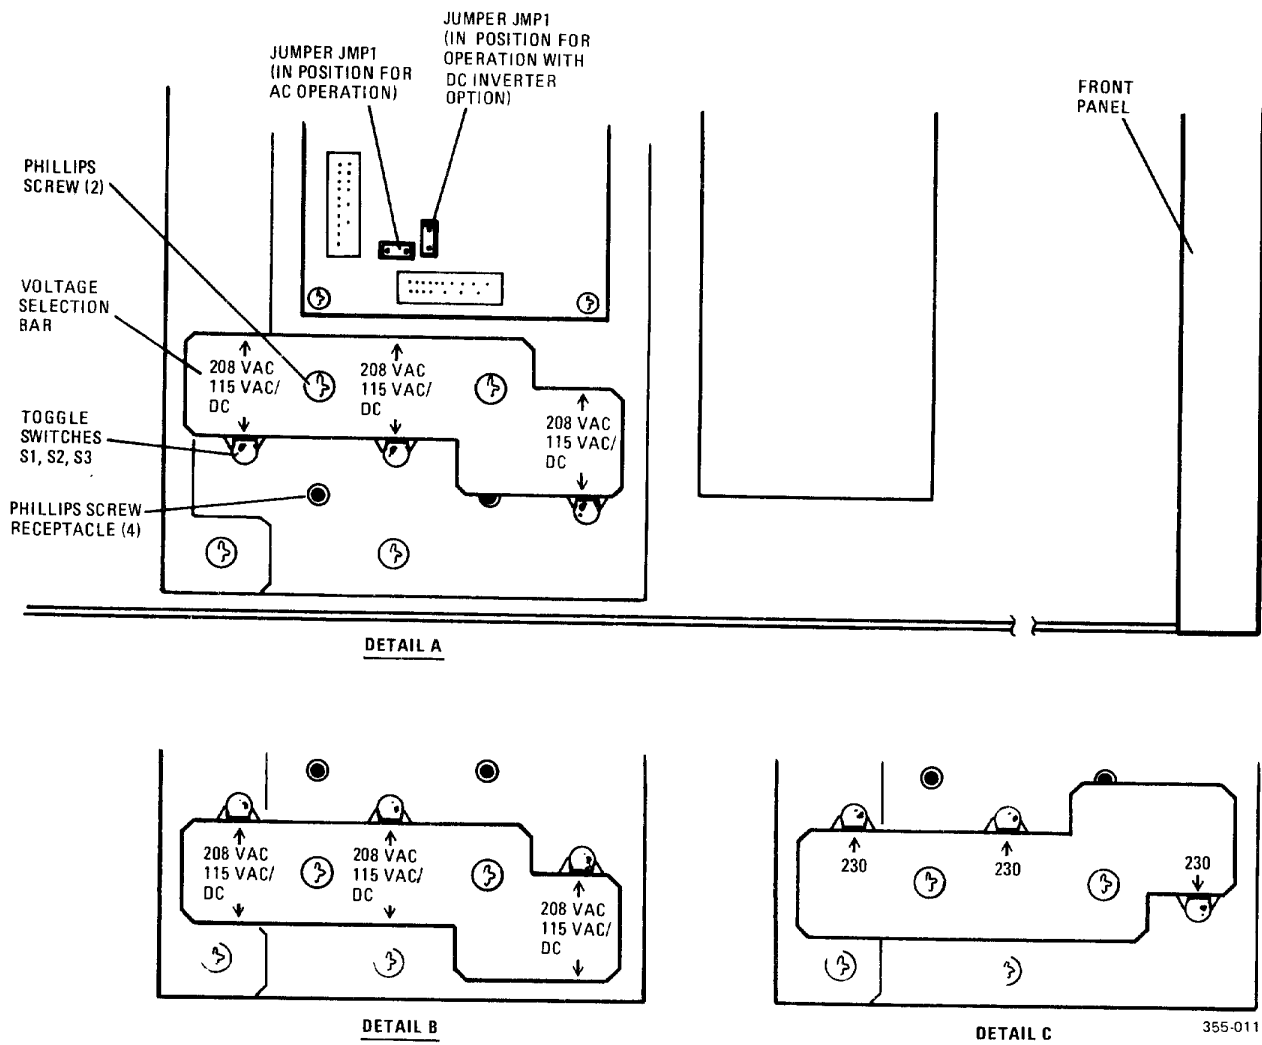

Figure 2-9. Primay Power Voltage Switch Settings
2-9. PRIMARY VOLTAGE SWITCH SETTINGS. After unpacking the equipment, the desired primary voltage switch settings should be made before connecting the equipment to any power source. Refer to figure 2-9. Under the top cover of the 500 Watt LPA is the A9 Assembly which contains jumper JMP1 and three toggle switches: S1, S2, and S3. These controls are used to set the primary voltages for the 500 Watt LPA. Figure 2-9 illustrates all the primary voltage switch settings possible: Detail A shows the 115 Vac and the dc setting, detail B shows the 208 Vac setting, and detail C shows the 230 Vac setting. To obtain the desired voltage setting, perform the following procedure.
- c. Refer to figure 2-9 and select from details A, B, and C, which switch setting to use.
- (1) If the metal voltage selection bar is not in the position shown in detail A, obtain a no. 1 Phillips screwdriver. Remove the two Phillips screws that fasten the metal voltage selection bar to the chassis of the 500 Watt LPA.
- (2) Remove the voltage selection bar.
- (3) Set switches S1, S2, and S3 to the 115 Vac/dc setting shown in detail A.
- (4) Move JMP1 to the proper jumper receptacle position shown in figure 2-9. Note that JMP1 is placed on one jumper receptacle for operation with the DC Inverter Option and on another jumper receptacle for ac operation.
- (5) Place the metal bar on the two upper receptacles for the Phillips screws so that the voltage selection bar indicates the 115 Vac/dc markings as shown in detail A.
- (6) Replace and firmly tighten the two Phillips screws.
- (7) Refer to chapter 3 for the proper power application procedures.
- (1) If the metal voltage selection bar is not in the position shown in detail B, obtain a no. 1 Phillips screwdriver and remove the two Phillips screws that fasten the metal voltage selection bar to the chassis.
- (3) Set switches S1, S2, and S3 to the 208 Vac setting shown in detail B.
- (4) Ensure that JMP1 is on the ac jumper receptacle as shown in figure 2-9.
- (5) Verify that the voltage selection bar indicates the 208 Vac markings, and place the metal bar on the two lower screw positions as shown in detail B.
- (1) If the metal voltage selection bar is not in the position shown in detail C, obtain a no. 1 Phillips screwdriver and remove the two Phillips screws that fasten the metal voltage selection bar to the chassis.
- (3) Set switches S1, S2, and S3 to the 230 Vac setting shown in detail C.
- (5) Verify that the voltage selection bar indicates the 230 Vac markings, and place the metal bar on the two lower screw positions as shown in detail C.